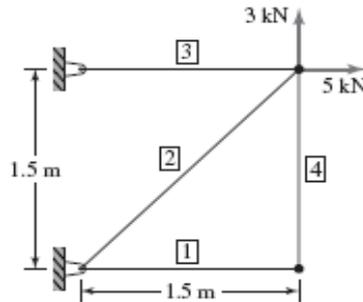

Fig. 3
6. The plane truss shown in **Fig. 3** is composed of members having a square $15 \text{ mm} \times 15 \text{ mm}$ cross section and modulus of elasticity $E = 69 \text{ GPa}$. Determine the nodal displacements and the stresses in each element. 14M
7. Prepare a detailed estimate of R.C.C. Roof Slab given in Fig. 3. 14M